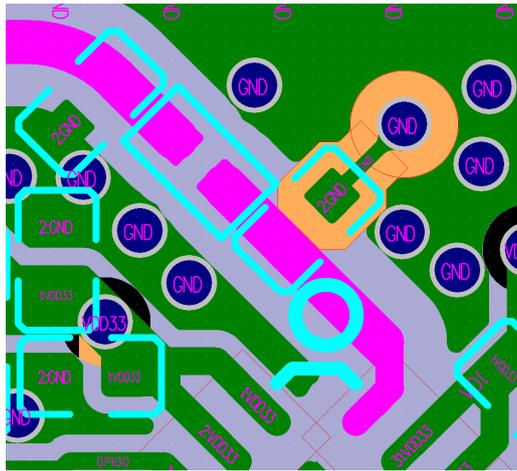

Figure 19: ESP32-H2 Stub in a Four-layer PCB Design
- Please add a stub to ground at the ground pad of the first matching capacitor to suppress second harmonics. It is preferable to keep the stub length 15 mil, and determine the stub width according to the PCB stack-up, so that the characteristic impedance of the stub is $100 \Omega \pm 10\%$. In addition, please connect the stub via to the third layer, and maintain a keep-out area on the first and second layers. The trace highlighted in Figure 19 is the stub. Note that a stub is not required for package types above 0201.